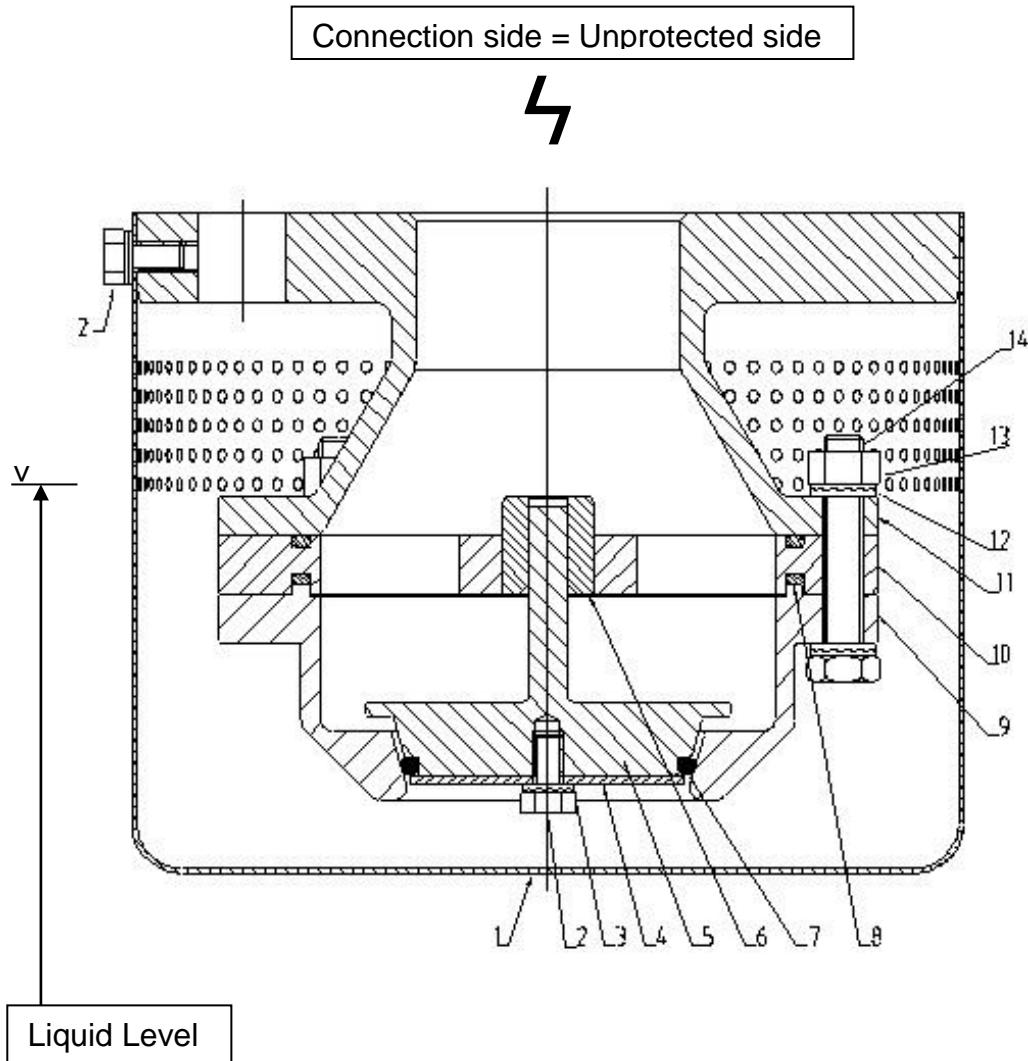

Fig. 1
(See also figure 1)
(See fig. 1)
- Item number (Please refer to **fig. 1** for items)